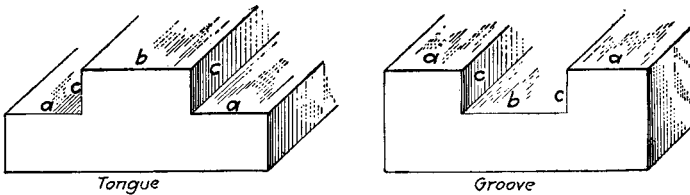
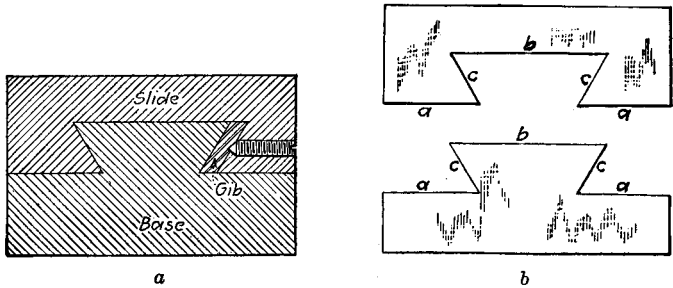
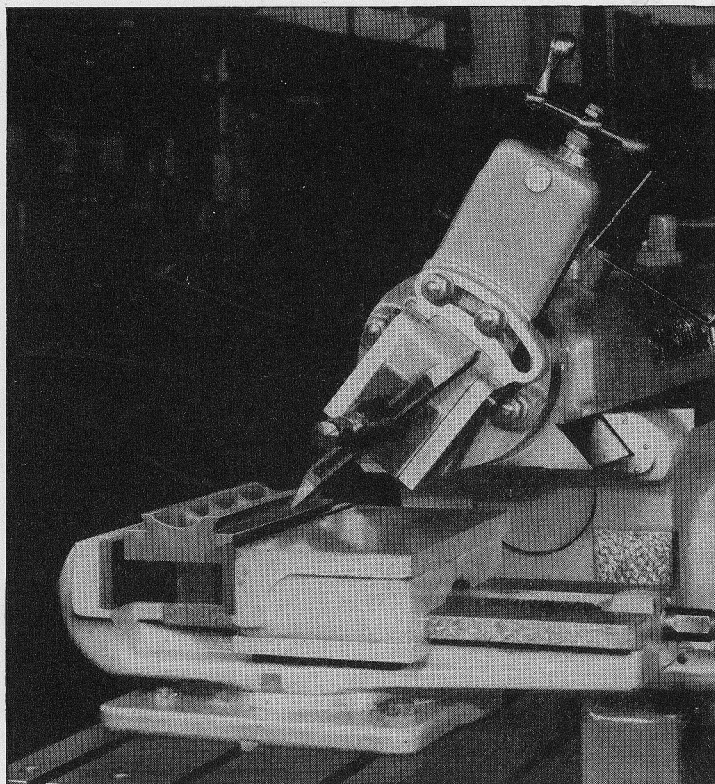

Fig. 2-52.
Fig. 2-60. Dovetail slide bearing.
Fig. 2-61. Shaping a dovetail. (*The Cincinnati Shaper Company*)
**Shaping Tongue and Groove.** In nearly all cases where such operations as tongues and grooves (Fig. 2-52) or dovetails (Fig. 2-60)
When shaping tongues and grooves or other shoulder operations, the roughing cuts should be made fairly close to the dimensions required, using the regular shaper tool with a small radius wherever convenient. When finishing, the surfaces *a* and *b* (Fig. 2-52) are machined to the degree of accuracy desired, but on each of these sur-
3. When using the graduations on the downfeed for gaging the vertical distance, first machine the top surface of the tongue ( $b$  in Fig. 2-52) to the finish size, then run the tool down the right distance and finish surface  $a$ , beginning at the edge and feeding toward the center. Both surfaces  $a$  may be finished with one setting of the tool.
**Shaping Dovetails.** A dovetail slide bearing is illustrated in Fig. 2-60. To shape a dovetail calls for operations which are very similar to cutting a tongue and groove. If the student has not already cut a tongue and groove, his attention is called to information in detail
The chief difference in shaping the tongue and groove and the dovetail is in the shaping of the surfaces *c* (Fig. 2-60). These surfaces, being angular, call for the setover of the *swivel head* of the shaper, also the setover of the *apron*, and for at least one pair of undercutting tools. The shape of the tools is illustrated in Fig. 2-61. A setup is shown in Fig. 2-61. If considerable metal must be removed, it will probably need a roughing and finishing tool for each side.
Assuming the base and sides are already finished, or at least squared up, the surfaces *b* in Fig. 2-60 and the greater part of the
3 *Gib.* In machine construction a piece of metal arranged to provide an adjustment for a bearing. In *a*, Fig. 2-60, is shown a cross section of a *straight gib* between two bearing surfaces and adjusted by a series of screws. Frequently *taper gibs* are used, and the dovetail in the base is made correspondingly wider at one end. Such a gib is adjusted lengthwise to take up the wear in the bearing surfaces.